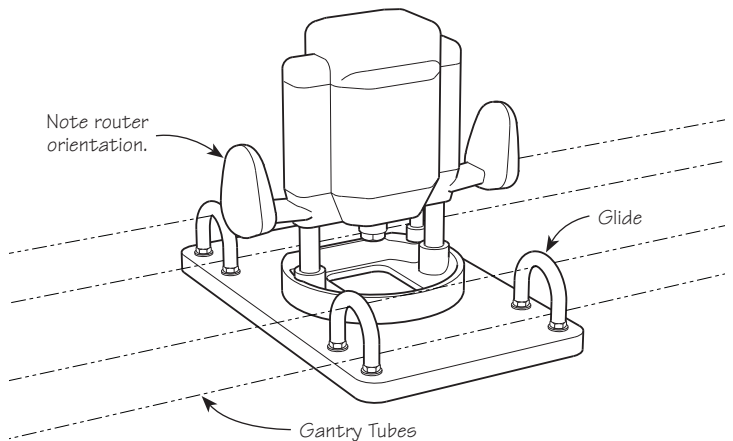

Figure 6: Router carrier assembly.
4. Drill the marked holes in the router carrier. Be aware that the carrier counterbores will be on the underside of the final assembly (see **Figure 6**).